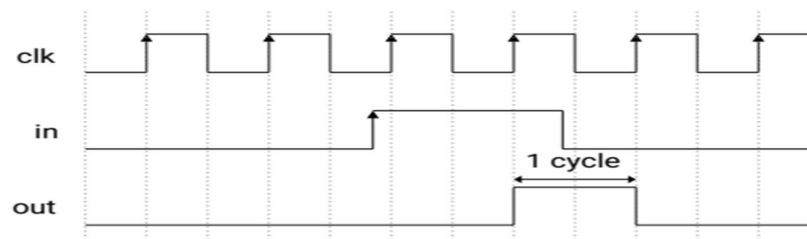

Figure 1: Rising Edge Detector behavior
- Design a Rising Edge Detection circuit. This circuit will use at least 2 flip-flops. The behavior of the circuit is similar to the waveform in Figure 1. Assume that the in signal's HIGH levels last equal to or longer than a clock cycle.